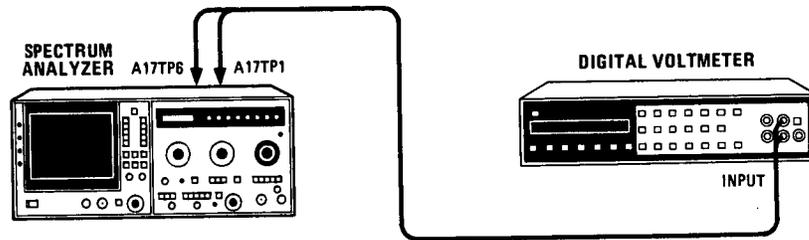

Figure 5-27. +10V Reference and Digital Readout Adjustment Test Setup
2. Reconnect power cord, set LINE switch ON, and connect equipment as shown in Figure 5-27. Set all spectrum analyzer controls to normal (green) settings, and FREQUENCY BAND GHz to .01 – 1.8.